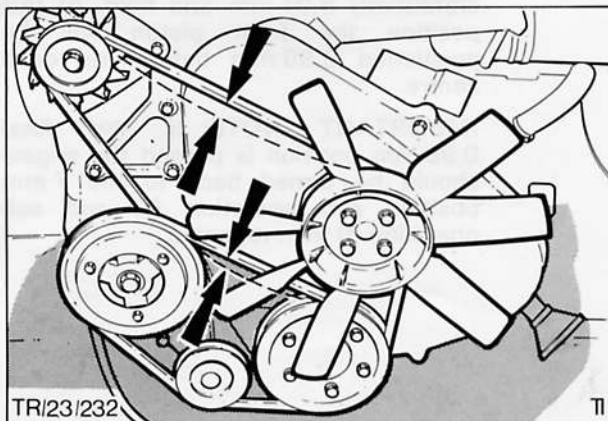

Fig. 54. Fan and drive belt adjustment
44. Position fan belt and vacuum pump drive belt. Adjust vacuum pump belt to give a 10 mm (0,4 in) free play on the longest span, Fig. 54.